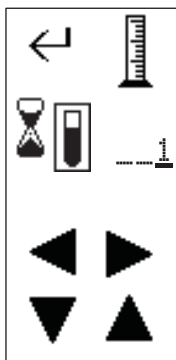

Figure 3-12 Volume display
1. Touch the Volume icon to open the settings display (Figure 3-12).